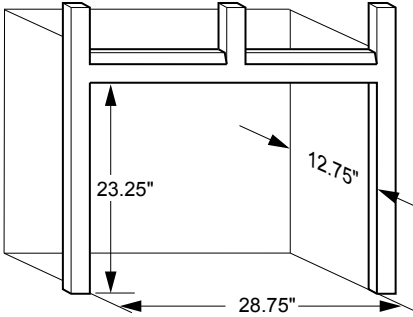
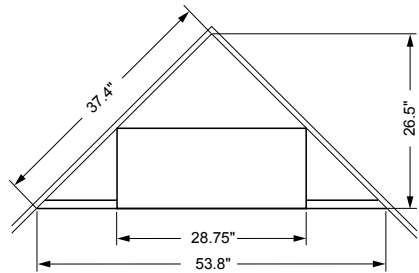

Figure 9 - Rough Opening for Wall Installation
Figure 10 - Rough Opening for Corner Installation
1. Frame in rough opening. Use dimensions shown in Figure 9 for the rough opening. If installing in a corner, use dimensions shown in Figure 10 for the rough opening. The height is 26 1/2", which is the same as the wall opening above.